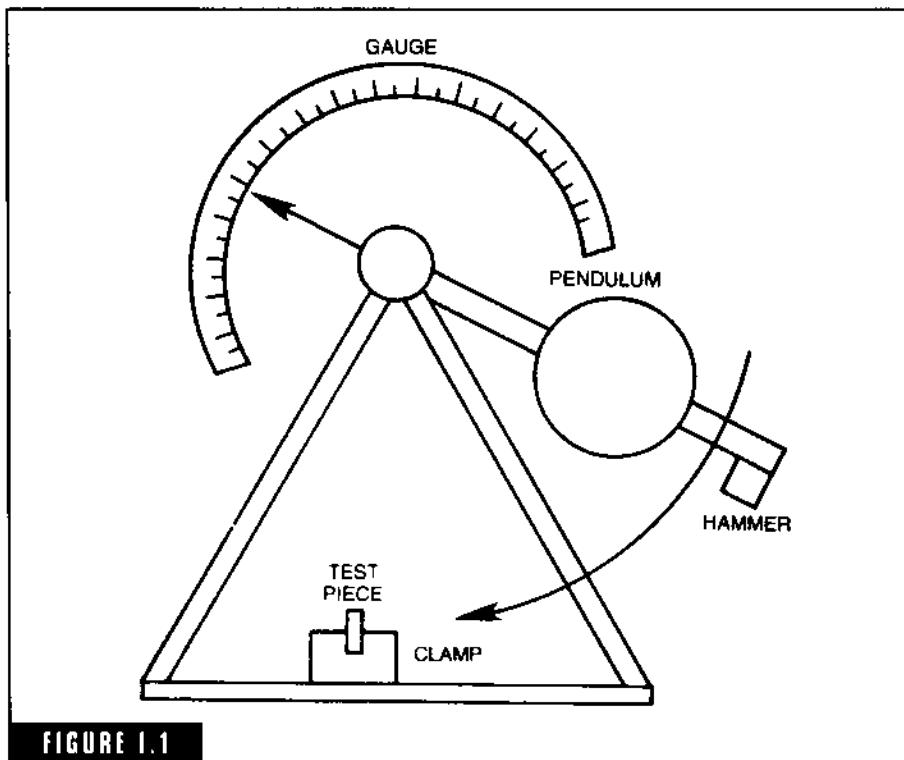

FIGURE I.1
**impact test** The test given to a material with a pendulum in which the specimen is supported at one end as a cantilever beam (Fig. I-1). Measures the energy required to break off the free end. Called *Izod test*.